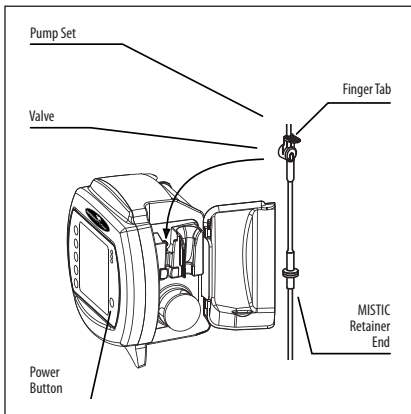

Figure 6A.
2. Load the Pump Set by holding the finger tab on the valve, and inserting the valve down into the slot on the left. (Figure 6A)